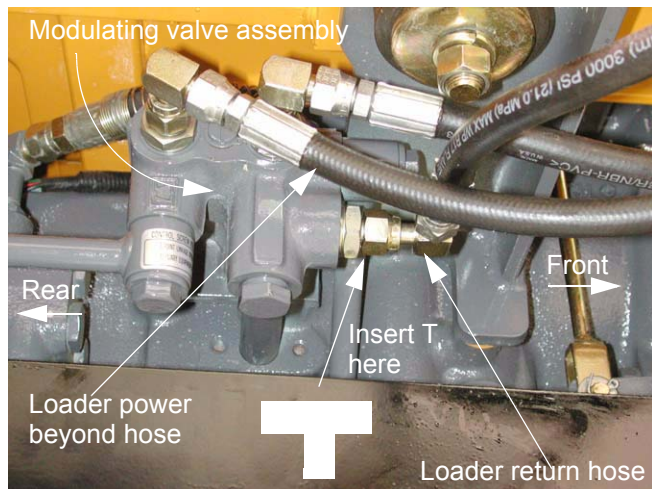

Figure 1.44
- 1.44. Disconnect the loader power beyond hose from the rear-most 90 degree fitting on the modulating valve. See Figure 1.44.